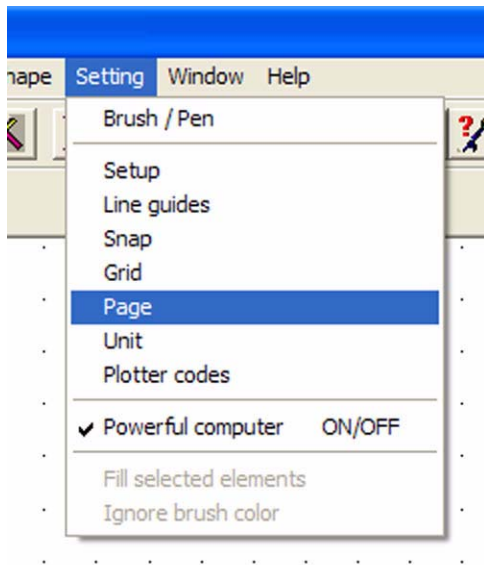

Figure 44
- 2 From the Setting menu, click **Page**. See figure 44.